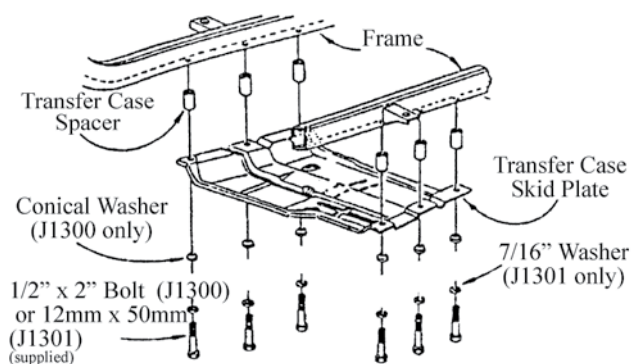

Figure 13
5. Attach the skid plate to the frame (through the new spacers) with the provided hardware: 97-02 models (kit #J1300) use 1/2" x 2" bolts with the provided conical washers. 03-05 models (kit #J1301) use 12mm x 50mm bolts with 7/16" USS washers (Figure 13). Leave hardware loose.